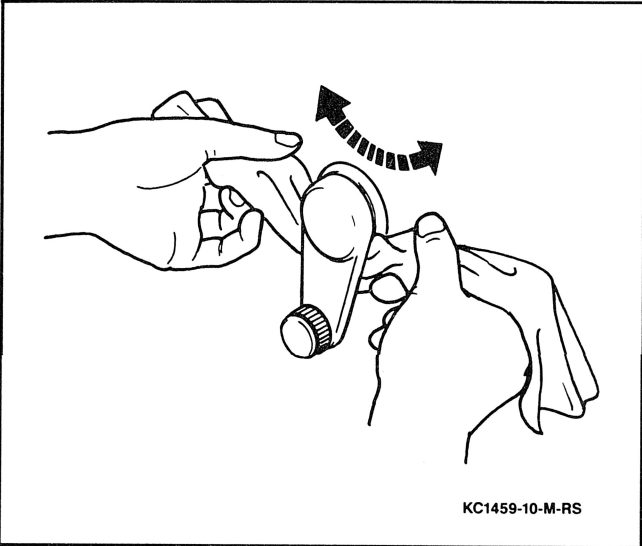

Figure 2 Removing Window Regulator Handle
4. Window regulator handle. Use a cloth to pull off snap ring (Figure 2).